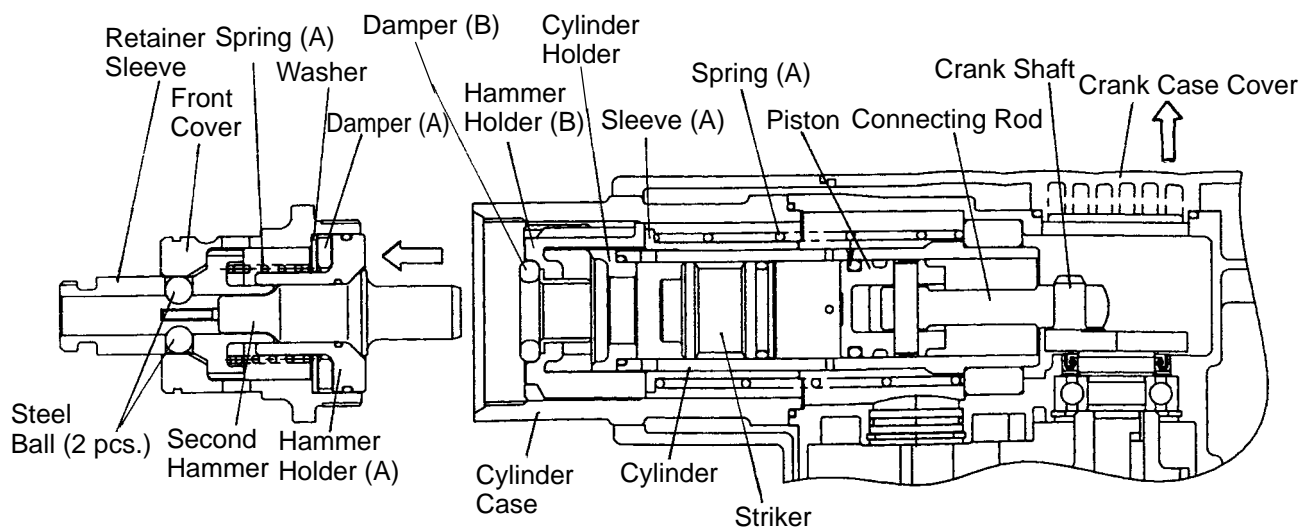

Fig. 14
The Retainer Sleeve [12], Steel Ball D7.0 [9], Spring (A) [13], Washer [14], Damper (A) [15], Hammer Holder (A) [16] and Second Hammer [19] can be removed together with the Front Cover [10]. Remove Damper (B) [20], Hammer Holder (B) [21] and Cylinder Holder [22] from the Cylinder Case [46], and tilt the orifice of the Cylinder Case [46] downward. Then Sleeve (A) [50], Spring (B) [51] and Cylinder [52] come out of the Cylinder Case [46]. If the Cylinder [52] does not come out, slightly tap the orifice of the Cylinder Case [46] with a plastic hammer. Remove the Striker [48] from the Cylinder [52] (Fig. 14).